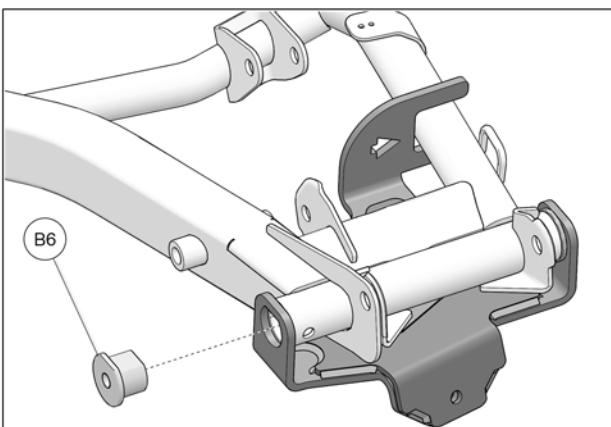

Fig. 7
- Insert the threaded T-Bushing (**B6**) through anchor bracket, and in suspension arm. See Fig. 7